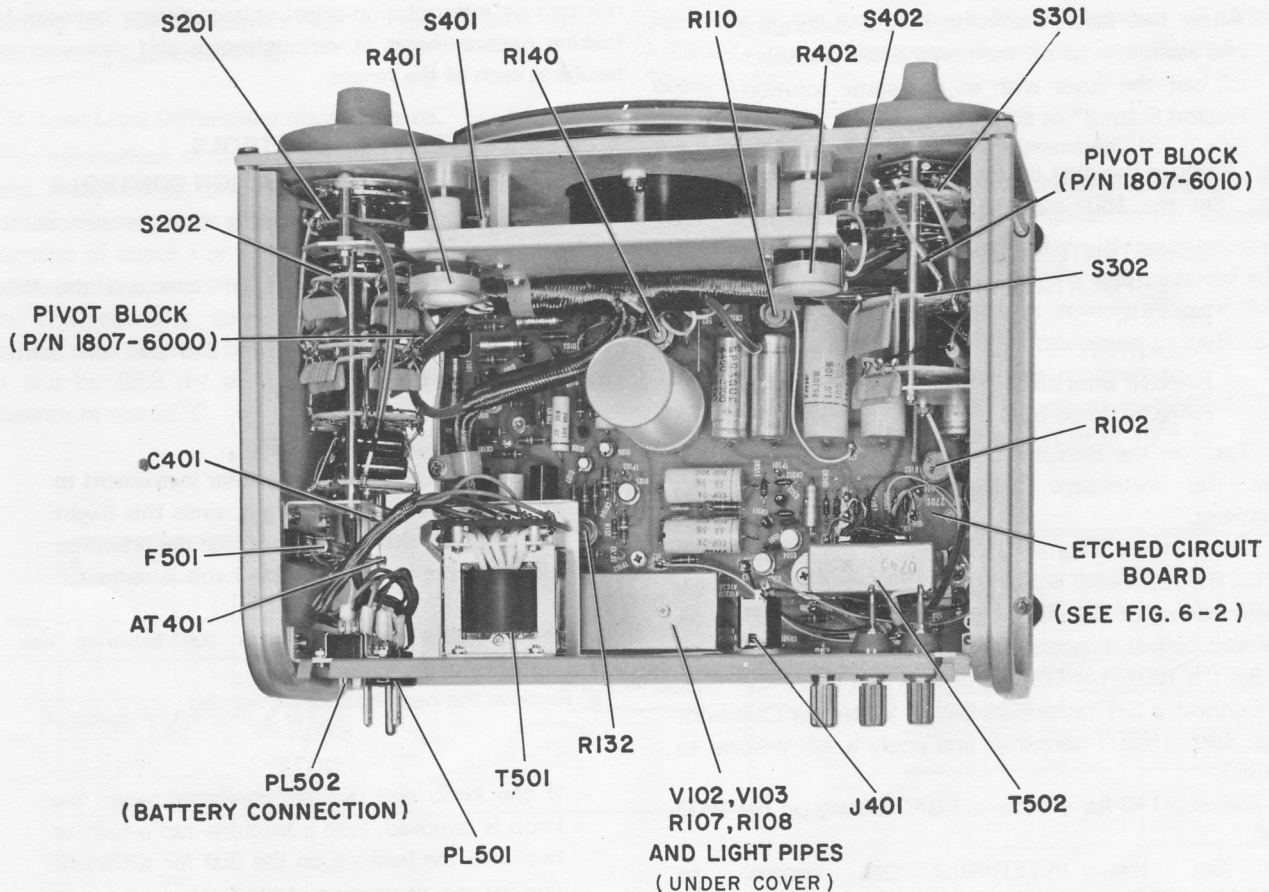

Figure 5-2. Top view of the 1807 with the dust covers removed.
Most of the parts and all internal adjustments are on one etched-circuit board in the instrument. (See Figure 5-2.) Other parts, such as the range-setting resistors (see Figure 6-5) and the interpolation-offset resistor-divider network (see Figure 6-6), are on switch wafers. A few parts (CR510, CR502, and CR514) are on the terminal board attached to transformer T501. C501 and C502 are mounted at power connector PL501, and CR401 is mounted at the rear of the meter. Table 5-4 lists the locations of parts according to reference designation groupings.
d. Connect the Digital Voltmeter to the RECORDER jack on the rear panel and adjust R132 (see Figure 5-2) for a DVM reading of  $0 \pm 300 \mu\text{V}$ , noting that the 1807 meter reads zero (adjust if necessary).
The photoconductors, light-conduction pipes, and neon bulbs are under the metal cover at the rear of the instrument (see Figure 5-2). Should it be necessary to gain access to these components, swing the board down according to the instructions in paragraph 5.5. Remove the screws on the metal cover to gain access to the components; the photoconductors are mounted at the ends of the light-conduction pipe.
in the "Federal Manufacturers Code" listing. Figure 6-1 shows a front view of the Type 1807, identifying parts. Figure 5-2 shows an interior view, identifying parts.